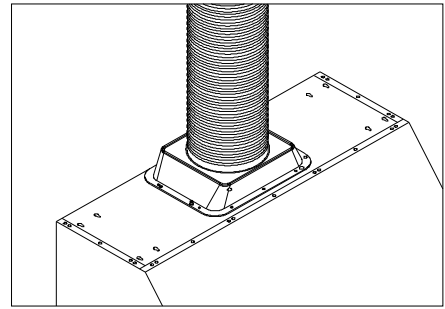

Figure 5
8. Use 8" round steel pipe (follow building codes in your area) to connect the ducting transition on the hood to the ductwork above. Use duct tape to make all joints secure and air tight. Refer to Figure 5.